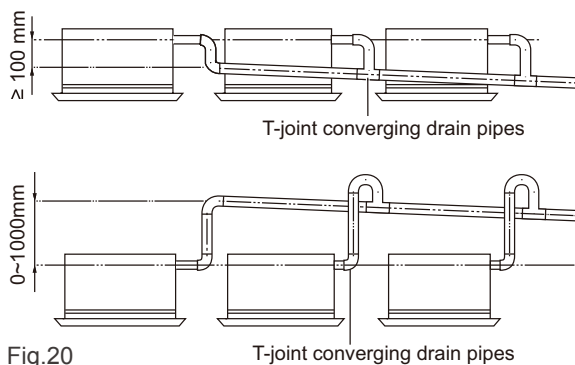

Fig.20
3. When unifying multiple drain pipes, install the pipes as Fig.20. Select converging drain pipes whose gauge is suitable for the operating capacity of the unit.(take the cassette type unit for example)